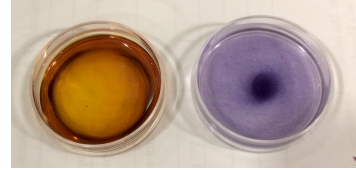

Figure 3: Iodine solution (brown, left) changes color when combined with soluble starch (purple, right).
6. While you are waiting for the strike water, prepare your 96-well plate with iodine test solution, and position the plate over a white piece of paper. Add some soluble starch solution to see what a positive starch test looks like (Figure 3). Use the plate to monitor starch extraction, recording the color in your data sheet.
13. Sample the wort for a hydrometer reading. Use a sterile 25 mL pipette to take wort from the kettle and fill about three-quarters of the test cylinder. Let the sample cool to 20°C. Gently, introduce the hydrometer until it floats by its own (Figure 3). Record the gravity in your data sheets.